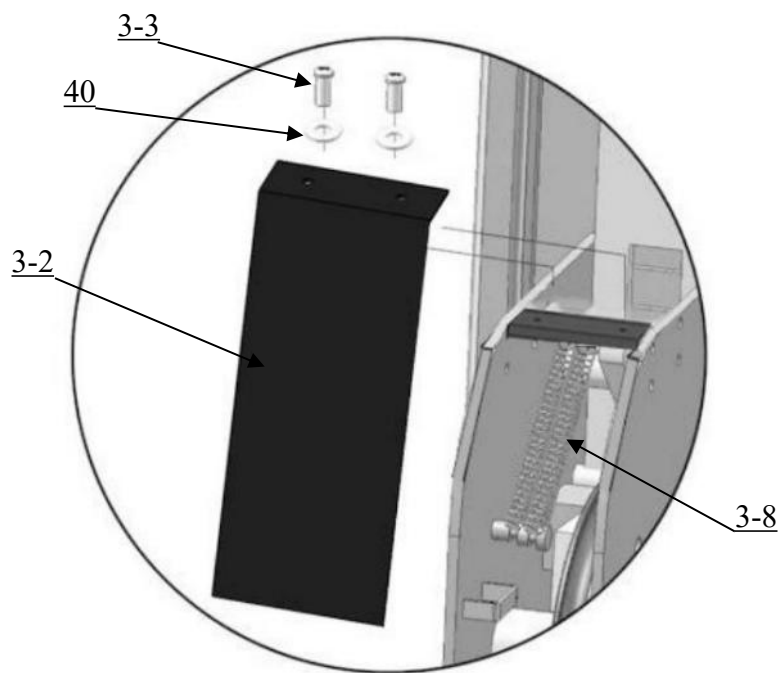

Fig. 42
O. Install spring and safety cover of cross beam (See Fig. 42)